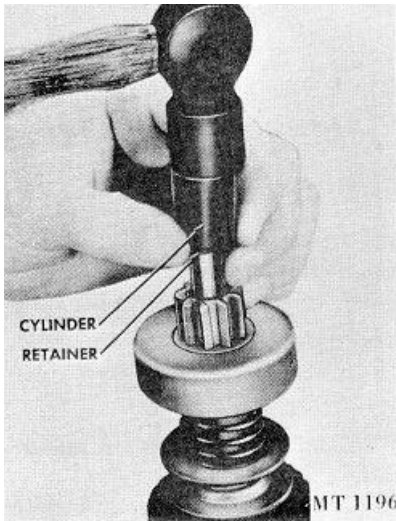

Fig. 10. Removing Retainer from Snap Ring
5. Remove the pinion from the armature by sliding a metal cylinder onto the shaft. With a hammer strike the metal cylinder against the retainer, drive the retainer towards the armature core and off the snap ring, Fig. 10.